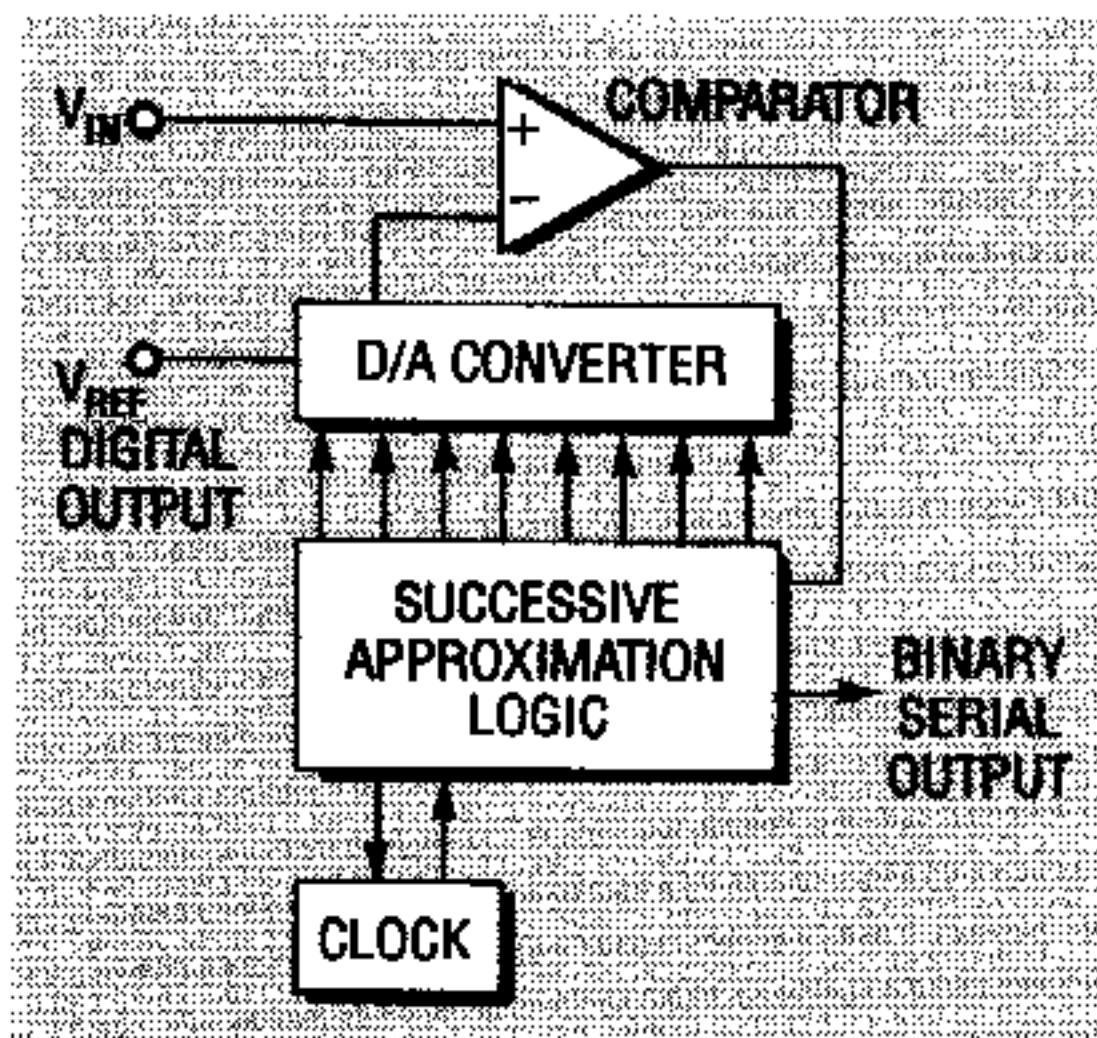

FIG. 2—SUCCESSIVE APPROXIMATION analog-to-digital converter block diagram.
A successive approximation (SA) converter consists of a comparator, a DAC, and successive approximation counter and logic as shown in Fig. 2. The analog input signal is first buffered and conditioned by the comparator. The converter compares an unknown analog voltage against a group of weighted references in a process that is analogous to the weighing of an unknown quantity on a precision balance.